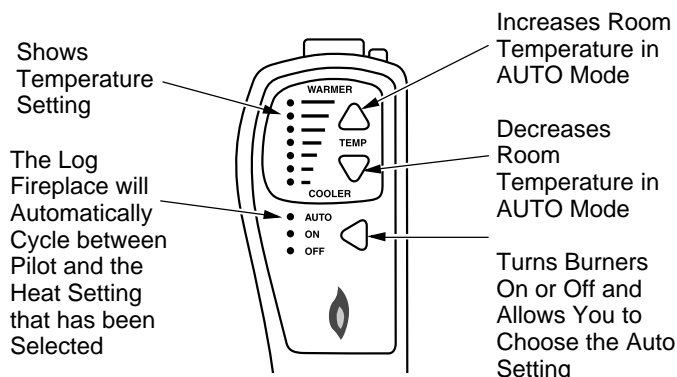

Figure 53 - Thermostat Hand-Held Remote Control Unit Selections (GHRCTA Only)
- Press the AUTO/ON/OFF button on the hand-held remote control (see Figure 53). The lights to the left of the button will show AUTO, ON, or OFF.